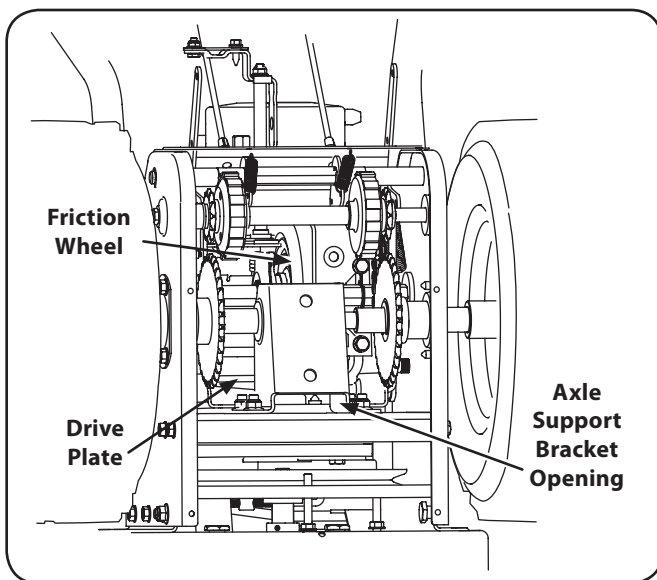

Figure 6-7
front frame support (See Figure 6-7). Looking through this opening, with the drive control released, there must be clearance between the friction wheel and the drive plate in all positions of the shift lever.
3. With the drive control engaged, the friction wheel must contact the drive plate. See Figure 6-7.